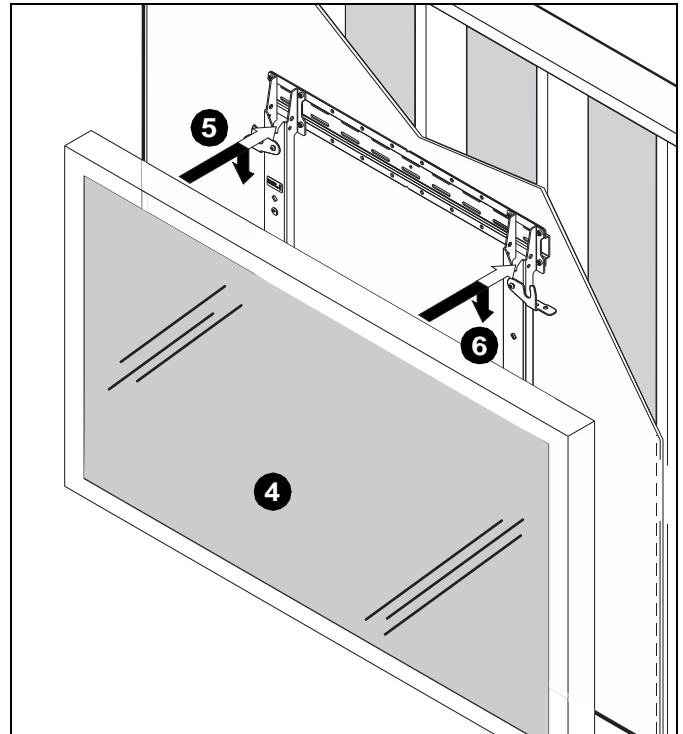

Figure 5
4. Align mounting buttons on display with teardrop mounting holes in mount. (See Figure 5)
5. Move display forward until recessed area of mounting buttons is positioned over lower area of teardrop mounting holes. (See Figure 5)
6. Lower display until recessed area of mounting buttons is seated in lower area of teardrop mounting holes. (See Figure 5)